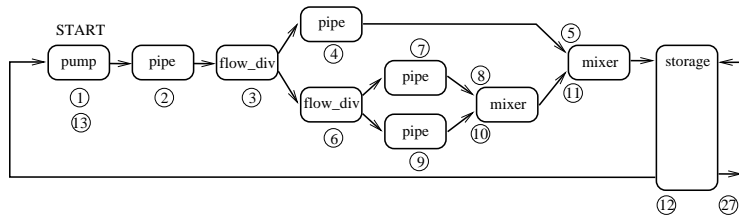

Figure 6.1: Unit ordering at branching points.
5. The diverter has HYDRAULIC number 11 (`diverter_air:47`). Fig.6.1 illustrates what happens at such a branching point: The program `init_set_mp` first continues with an arbitrary unit succeeding the diverter. Several units later, a mixer must appear, since in ColSim only closed hydraulic cycles are allowed. If it is found that the mixer's output cannot be calculated since no current input values are at hand, the program returns to the diverter and continues with the second branch. Also branchings inside branchings are possible.